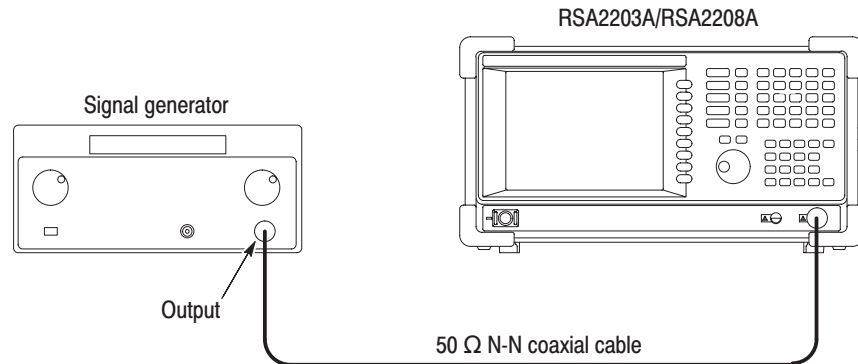

Figure 5–11: Test hookup
- b. *Hook up the signal generator:* Connect the generator output through a 50 Ω N-N coaxial cable to the analyzer **INPUT**. See Figure 5–11.